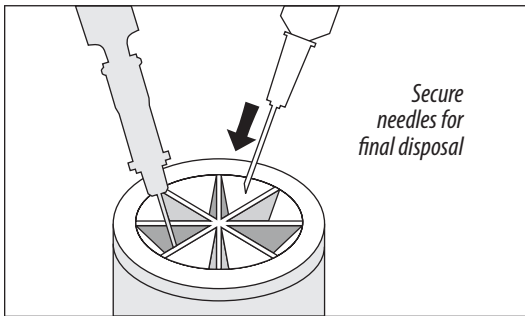

Figure 24
- Using one-handed technique, firmly push needles into disposal cup holes (refer to Figure 24).